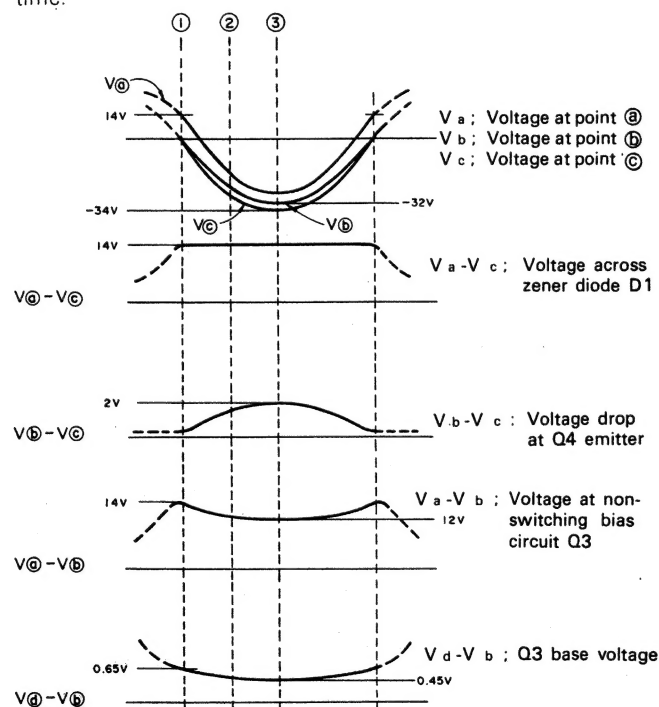

Fig. 8
At the time when the input signal voltage goes from positive to negative ① (Fig. 8), the driver transistor Q1 is conducting a collector current and the zener diode D1 is also in active to produce 14V at point ④. A part of the Q1's emitter current and a current from point a through the resistor are supplied to the base of the power transistor Q3 as a bias current. Then Q3's collector current will be approximately 70 mA.
The above figure shows the states of the circuit when the input signal is negative ② (Fig. 8) and the Q4's collector current is 2A. Since ② amperes flows through the 8-ohm resistor, the voltage at point ⑤ becomes -16V. Most of this current flows through the emitter resistor of Q4, making -17V at point ③. The voltage at point ④ is higher than that of point ③ by 14V which is the zener voltage of D1, thus resulting in the point ④ voltage at -3V. At this time, Q1 is cut off, and the voltage at point ① is -15.43V which is the difference of voltages at points ④ and ⑤ divided by resistors of 2.2 kΩ and 100Ω.
When the signal voltage becomes larger in negative ③ (Fig. 8), the voltage drop across the Q4's emitter resistor increases, resulting in a reduction of Q3's  $V_{BE}$ . Thus the collector current further decreases to become about 10 mA, but the Q3 will never be cut off. The following figure shows the voltage of various points in the circuit in relative to the time.